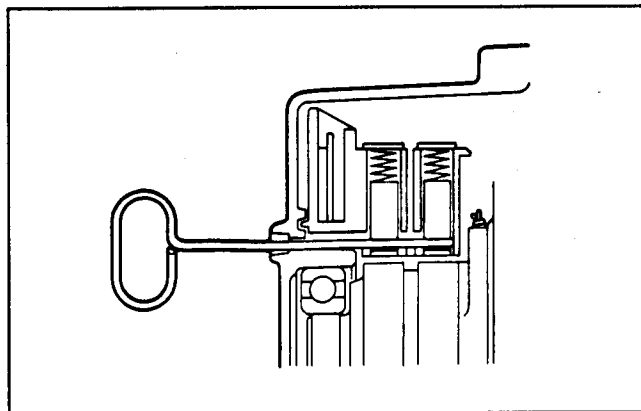

Figure 44
**IMPORTANT:** Put a wire through the small hole in the rear bracket to lift the brushes before installing the rotor to the rear bracket (Fig. 44). Remove the wire after the rotor is installed.